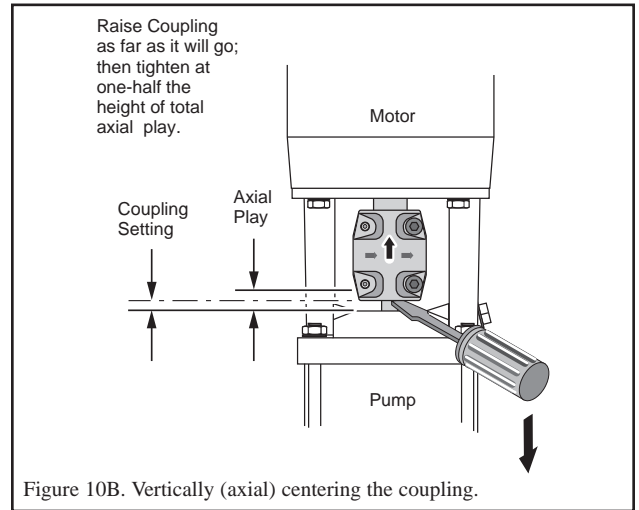

Figure 10B. Vertically (axial) centering the coupling.
16. Insert a screwdriver under the coupling (see Figure 10B).